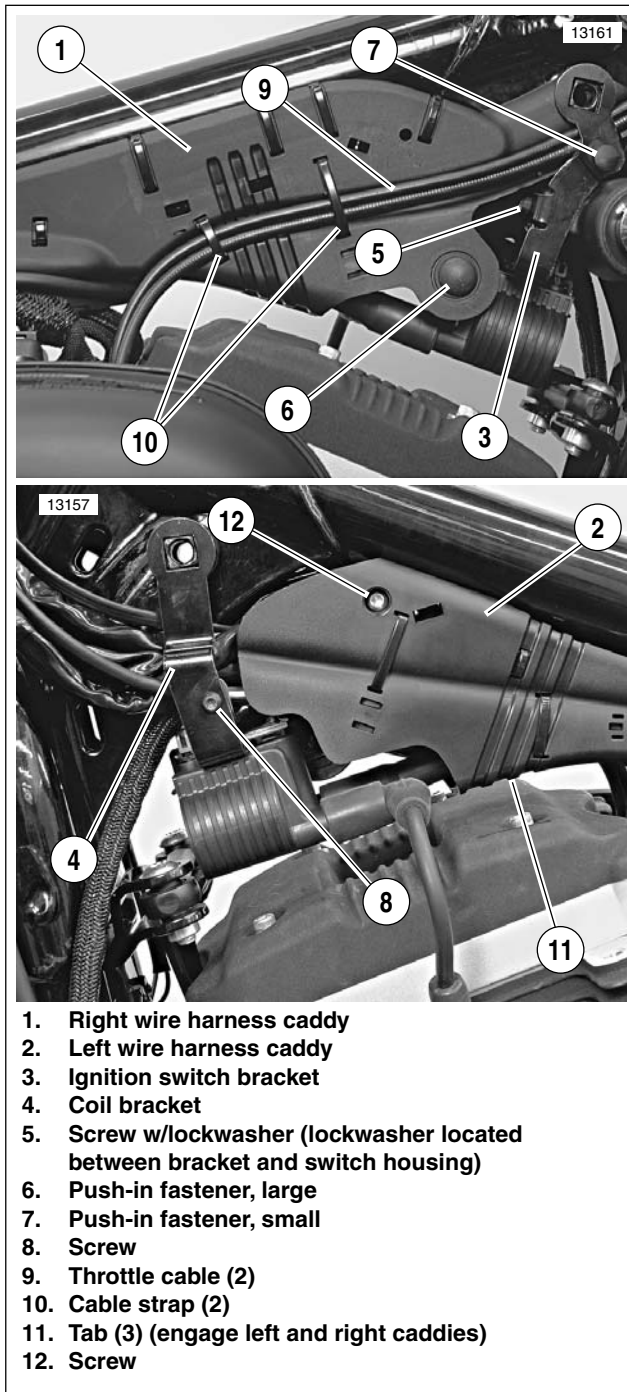
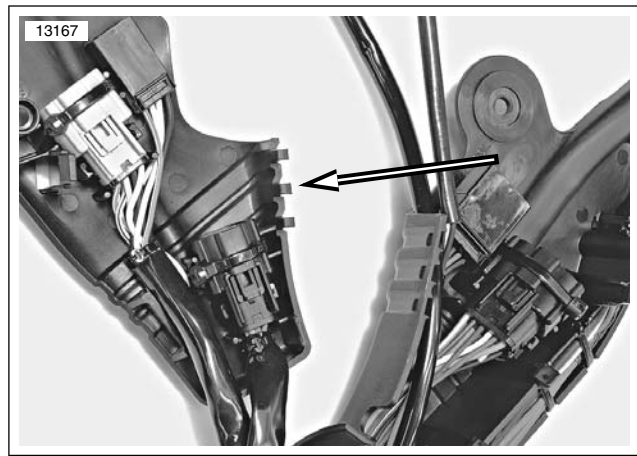

Figure 7-116. Wire Harness Caddy Assembly
Figure 7-117. Wire Harness Caddy: Locking Tabs
See Figure 7-116. The wire harness caddy assembly (1, 2) is secured to the ignition switch bracket (3) with two push-in fasteners (6, 7), and to the frame with mounting tabs hooked onto a bracket under the frame backbone tube. The left and right wire harness caddies are locked together with three tabs (see Figure 7-117.) and secured with a screw (item 12, Figure 7-116.).
5. See Figure 7-116. Remove screw (8) and disengage coil bracket (4) from mounting boss on frame.
9. See Figure 7-116. Remove screw (12) and carefully disengage left wire harness caddy (2) from right wire harness caddy (1).
10. Cut two cable straps (10) securing throttle cables (9) to right wire harness caddy.
12. **California models:** Cut barbed cable strap (5) securing EVAP canister purge hose (4) to rear of right wire harness caddy.
13. See Figure 7-116. Remove and discard push-in fasteners (6, 7). Unhook right wire harness caddy from frame backbone bracket. Lower ignition switch bracket (3) from mounting bosses on frame to free right wire harness caddy.
2. Mount front turn signals connector [31A] (6) onto mounting tab on right wire harness caddy.
3. See Figure 7-116. Place throttle cables (9) in groove in right wire harness caddy (1).
5. Mount handlebar control connectors [22A], [24A] (5, 3) to left wire harness caddy (1) with cable straps. Mount headlamp connector [38A] (4) onto tab on left wire harness caddy.
6. See Figure 7-116. Hook right wire harness caddy (1) into bracket on frame backbone. Secure front of caddy onto ignition switch bracket mounting boss on right side of frame. Raise ignition switch bracket (3) up into position and mount it onto boss on frame.
12. Route engine sub-harness (3) around trough in right wire harness caddy. Secure sub-harness to caddy trough with a cable strap. Run strap through hole in boss that originally secured engine sub-harness.
13. **California models:** Secure EVAP canister purge hose (4) to rear of right wire harness caddy with a barbed cable strap (5).
- a. Instruments connector [20A] (7).
- b. Front turn signal connector [31B] (6)].
- c. Right hand control connector (black) [22B] (5).
- d. Left hand control connector (gray) [24B] (3).
- e. Headlamp connector [38B] (4).
15. See Figure 7-116. Mate left wire harness caddy (2) to right wire harness caddy (1). Secure with screw (12) and tighten.